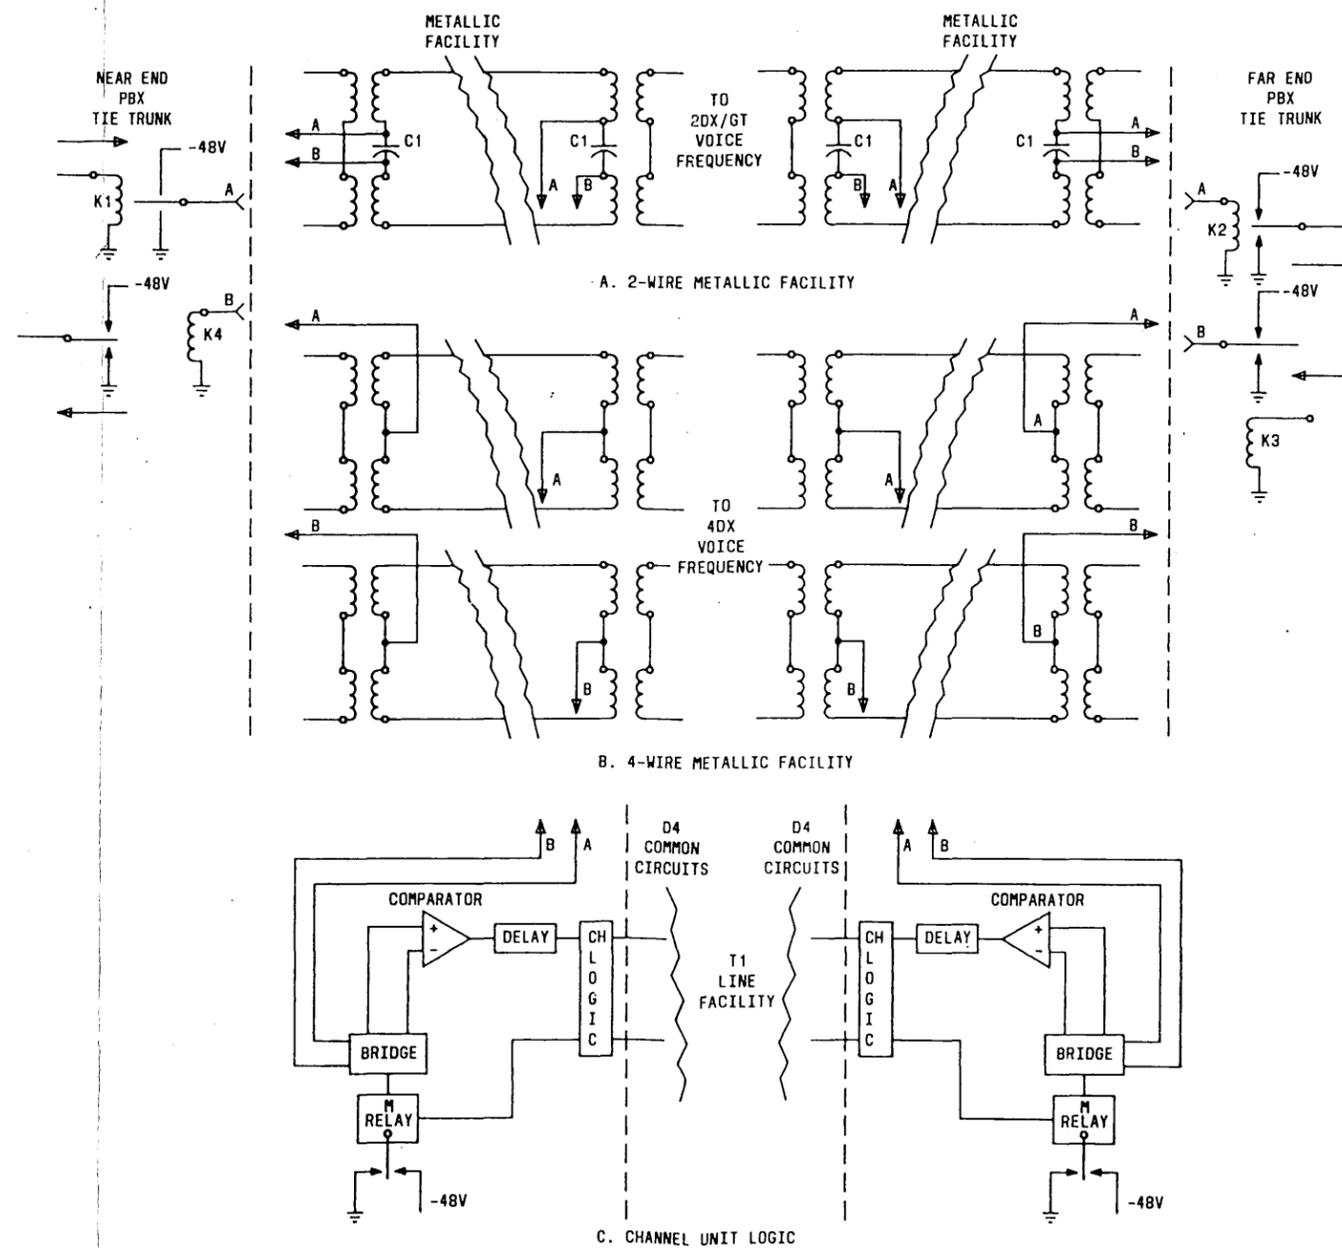

Fig. 6—2DX/GT and 4DX Signaling
2.16 DX signaling provides simultaneous signaling and supervision in two directions and requires two signal leads per circuit. The 2DX/GT derives the A and B signal leads by connecting the center taps of the line side of the hybrid transformers across a capacitor. The VF continues to use the balanced pair (Fig. 6).
2.17 The 4DX A and B leads are derived from the center tap of each line transformer, (Fig. 6).